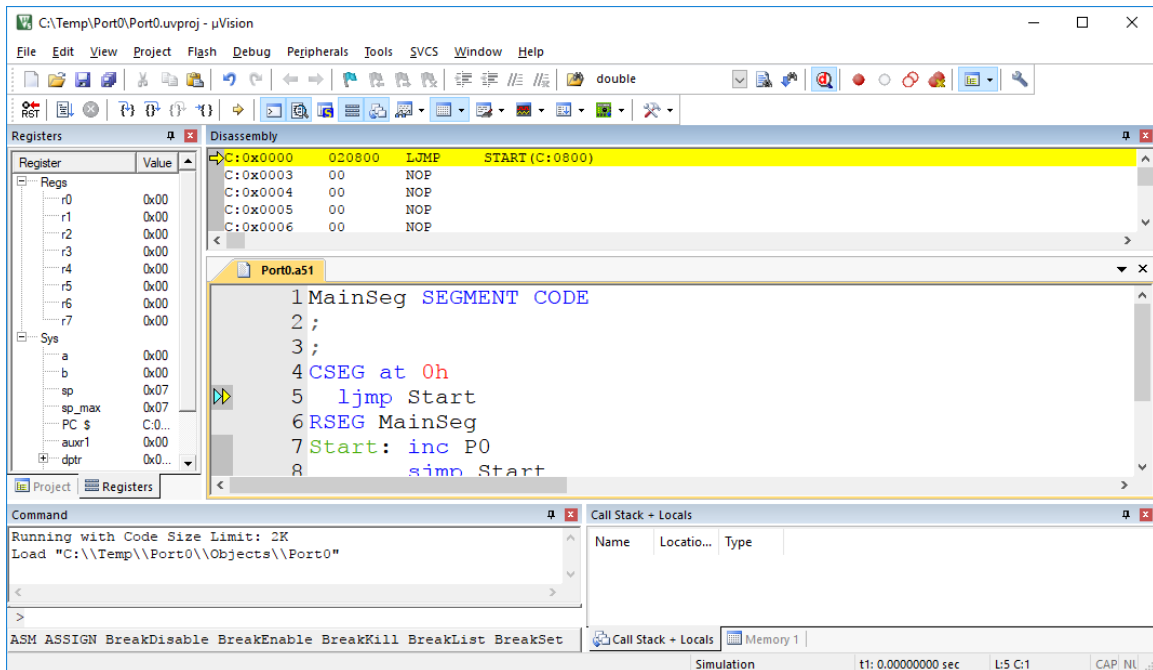

Figure 9
10. To run your program in a simulation environment click on *Debug*→*Start/Stop Debug Session*. Your screen will then look like that shown in Figure 9. Note that the debugger lists all of the registers and their contents in the window on the left.